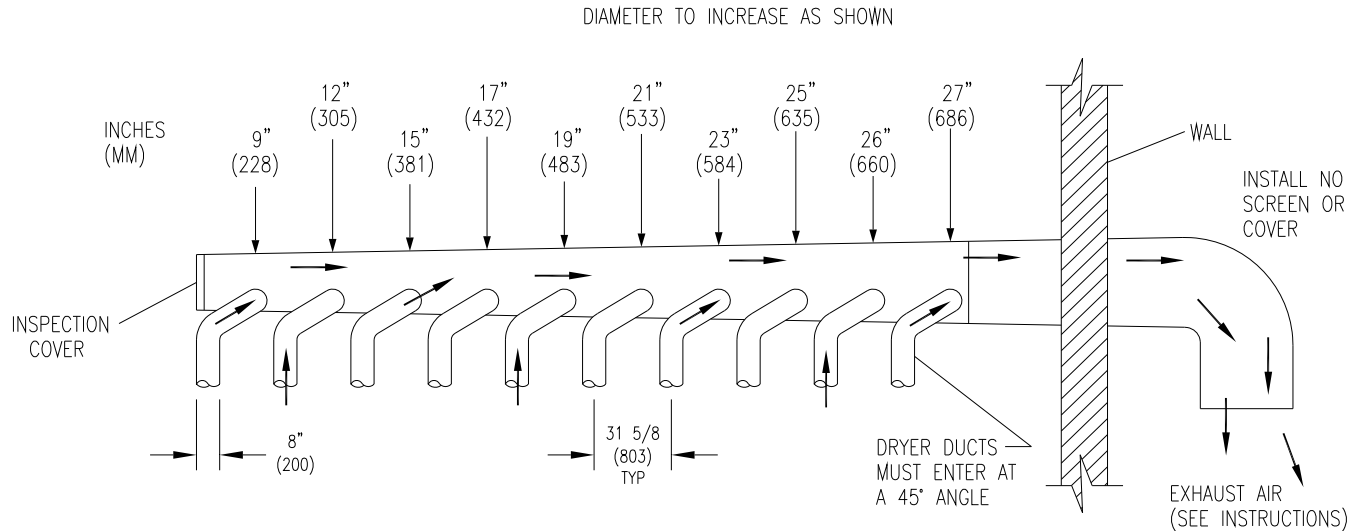

FIGURE 2- Dryer Exhausting Using A Main Discharge Duct.
7. **EXHAUST INSTALLATION.** (Refer to Figure 2 at the end of section 7.) Exhausting of the dryer(s) should be planned and constructed so that no air restrictions occur. Any restriction due to pipe size or type of installation can cause slow drying time, excessive heat, and lint in the room.
Installation of several dryers, where a main discharge duct is necessary, will need the following considerations for installation (see Fig. 2). Individual 8" ducts from the dryers into the main discharge duct should be at a 45-degree angle in the direction of discharge airflow.
NOTE: Never install the individual 8" ducts at a right angle into the main discharge duct. The individual ducts from the dryers can enter at the sides or bottom of the main discharge duct. Figure 2 indicates the various round main duct diameter to use with the individual dryer ducts. The main duct can be rectangular or round, provided adequate airflow is maintained. For each individual dryer, the total exhausting (main discharge duct plus duct outlet from the dryer) should not exceed the equivalent of 20 feet (6m) and two elbows. The diameter of the main discharge duct at the last dryer must be maintained to exhaust end.